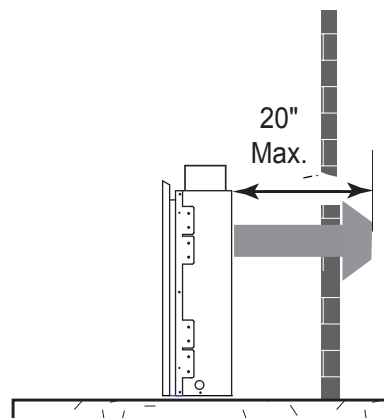
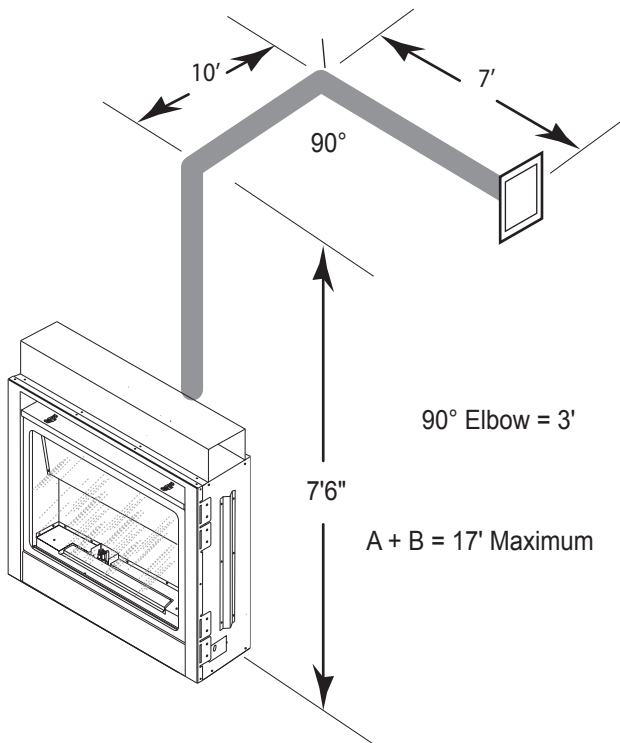

Figure 19 - Maximum Horizontal Run with No Rise
Figure 21 - Maximum Vent Run with Elbows
- If a 90° elbow is used in the horizontal vent run (level height maintained) the horizontal vent length is reduced by 36" (914 mm) (Fig. 21 A and B) This does not apply if the 90° elbows are used to increase or redirect a vertical rise. See Figure 19.
2. Remove soil to a depth of approximately 16" below base of snorkel. Install drain pipe. Install window well (not supplied). Refill hole with 12" of coarse gravel leaving a clearance of approximately 4" below snorkel. *See Figure 21.*